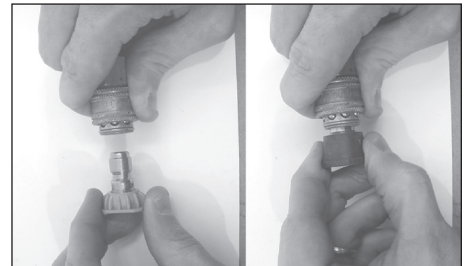

Figure 15 - Quick connect tip
7. Install quick connect tip (See Figure 15).